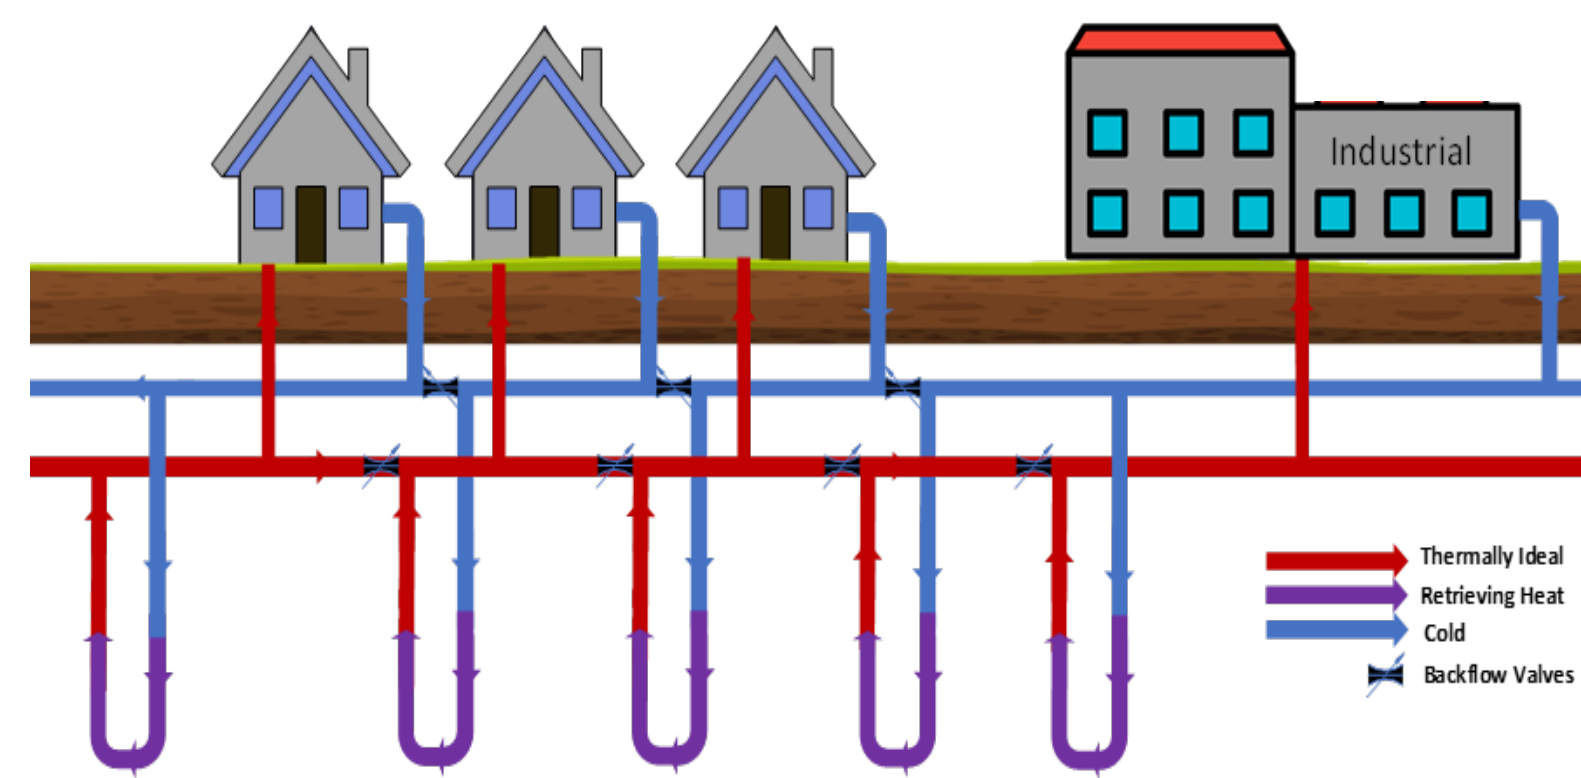

Figure 1. Networked Geothermal System Setup
- Series of buried pipes that circulate a fluid heated or cooled by subsurface temperatures, shown in Figure 1.